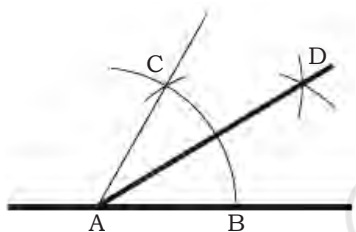

Fig. 1.9: Constructing an angle of 30°
3. Join AD. Angle DAB is of 30° (Fig. 1.9).